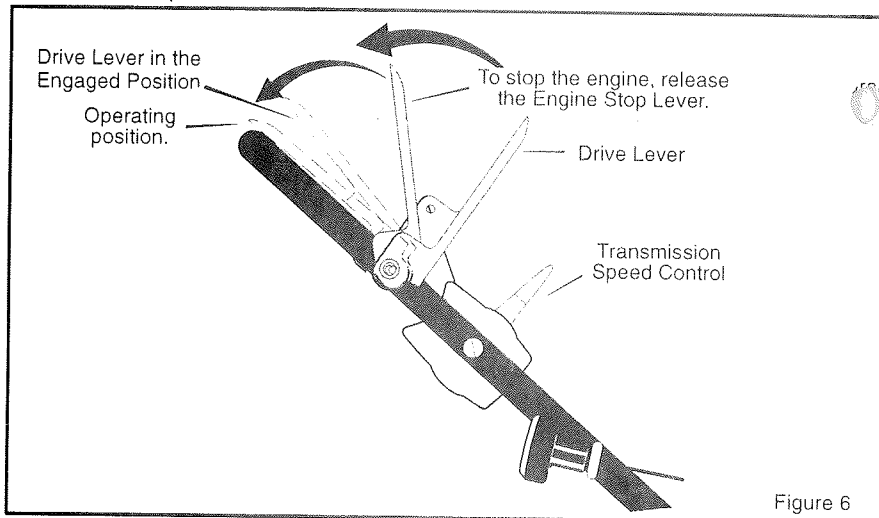

Figure 6
Release the **engine stop lever** and the engine and the blade will automatically stop. To run the engine, hold the **engine stop lever** in the **Operating position** (Figure 6).
3. To go forward, hold the **drive lever** against the handle in the **ENGAGED** position (Figure 6).